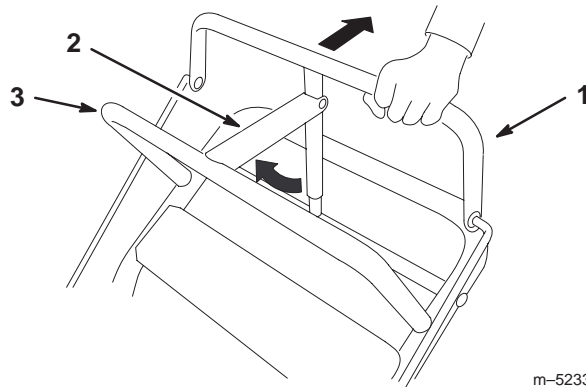

Figure 10
5. Check the parking brake adjustment (Fig. 10). Refer to Checking the Brakes, page 30.
Parking Brake Lever – Pull back on upper control bar and swing brake lever up against the upper handle (Fig. 10).